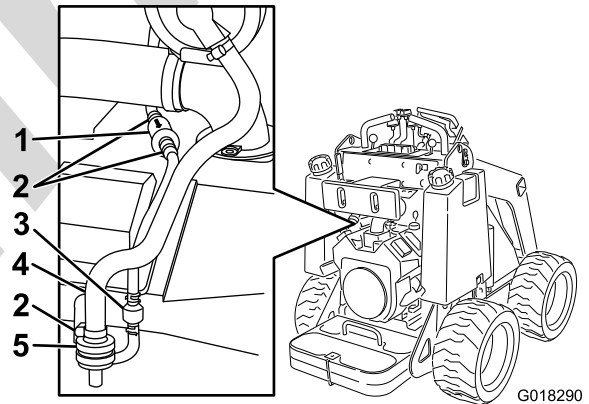

Figure 22
2. Loosen the hose clamp above the carbon canister air filter (Figure 22).
3. Remove and discard the air filter (Figure 22).
4. Install a new filter into the hose and secure it with the hose clamp (Figure 22).
2. Move the spring-type hose clamps on both sides of the carbon canister purge-line filter away from the filter (Figure 22).
- Remove and discard the carbon filter (Figure 22).
- Install a new filter into the hose with the arrow on the filter pointing towards the check valve and secure it with the hose clamps (Figure 22).